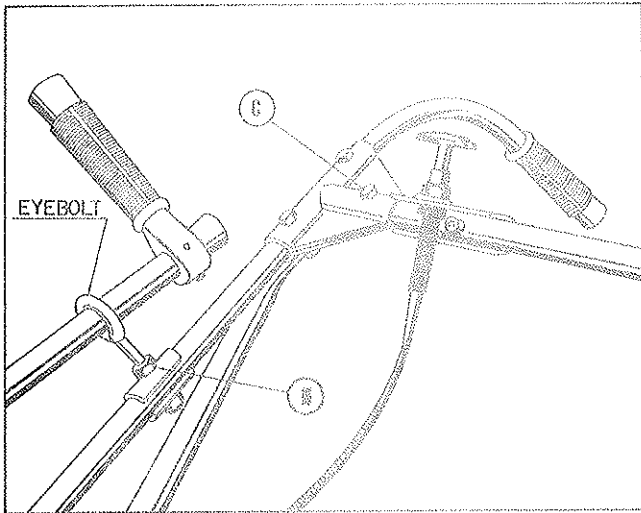

Fig. 2
4. Pick up bar which has the throttle attached and assemble at Point C, Fig. 2, using bolt and nut provided.
11. Slide eyebolt (see Fig. 2) up control rod and assemble at Point H, Fig. 2, as shown. Tighten nuts.